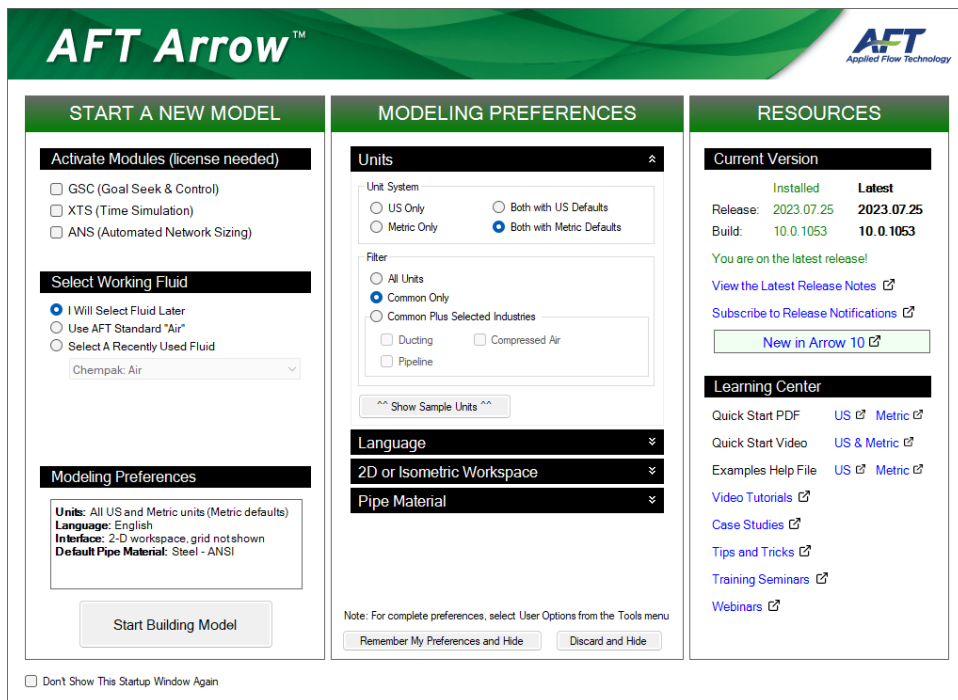

Figure 2: Startup Window showing Modeling Preferences
- **Modeling Preferences** - Displays various settings for the application, such as specifying the units to use or which grid to use. These options can be modified later. Click the **Modify** button to reveal the following settings, as shown in Figure 2. Click the **Remember My Preferences and Hide** button to update the modeling preferences for the model and to update the default settings for the application.